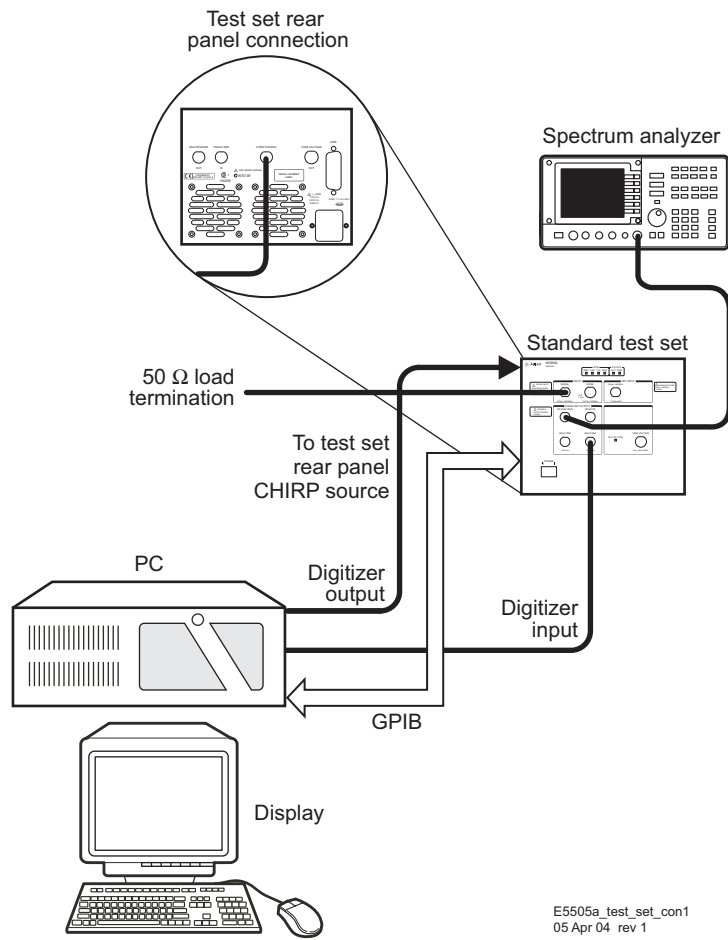
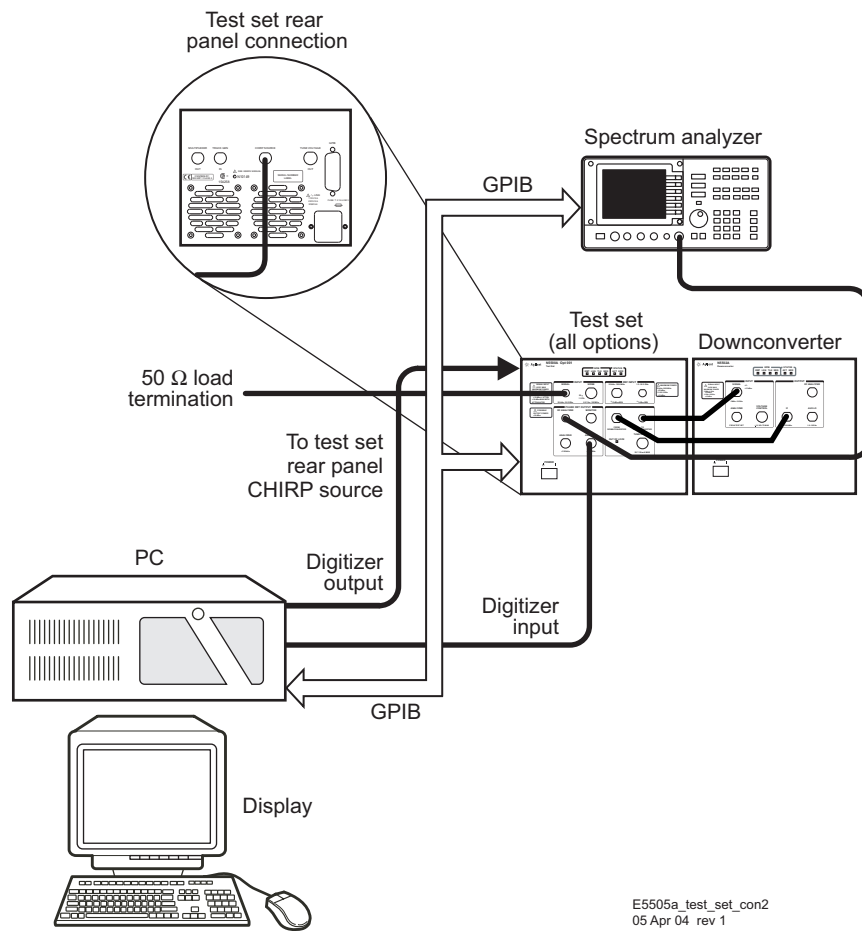

Figure 305 PC to test set connection, standard model
Figure 306 PC to test set (options 001 and 201) and downconverter connection
- 3 Connect the following cables between the PC Digitizer card adapter and the test set (see Figure 305 on page 398 and Figure 306 on page 399):